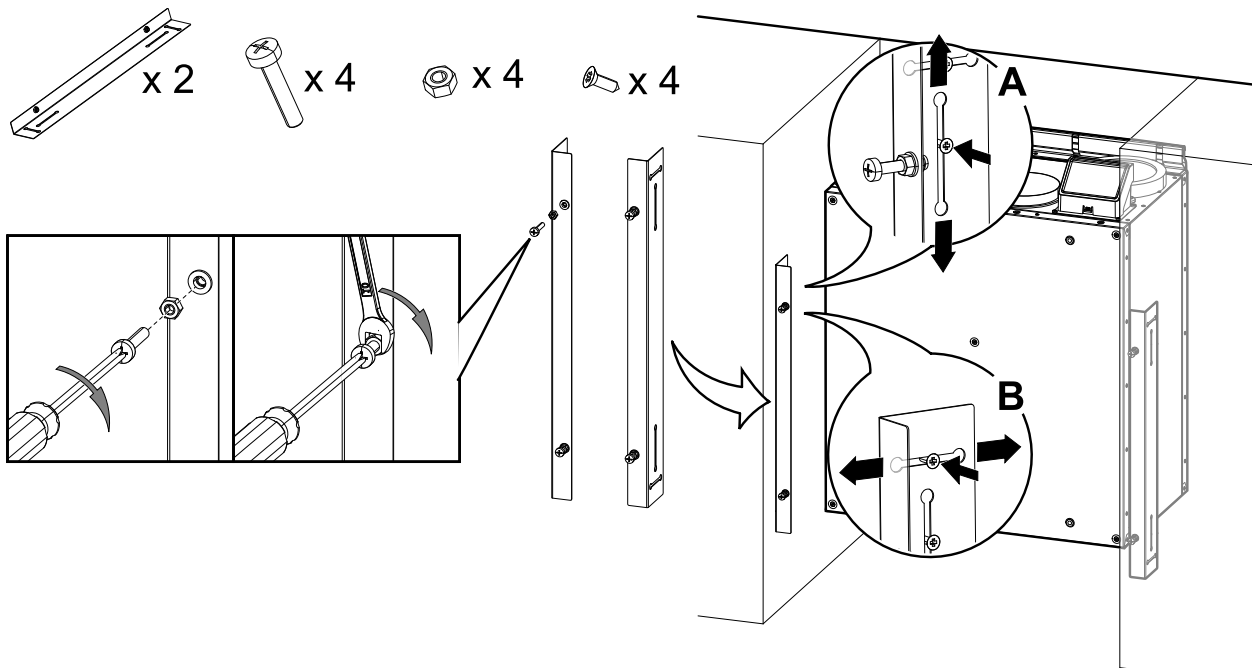

Fig. 21 Installation of bolts and brackets
1. Install four M6 bolts into threaded inserts in brackets and lock bolts with hex nuts (figure 21). Bolts protrusion can be adjusted later.
Brackets are adjustable vertically (figure 21, A) and horizontally (figure 21, B). Align the brackets with the underside of the unit. Fully tighten screws after adjusting the brackets.